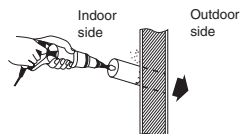

Fig. 3-35
- Using a sabre saw, key hole saw or hole-cutting drill attachment, cut a hole in the wall. (Fig. 3-35)